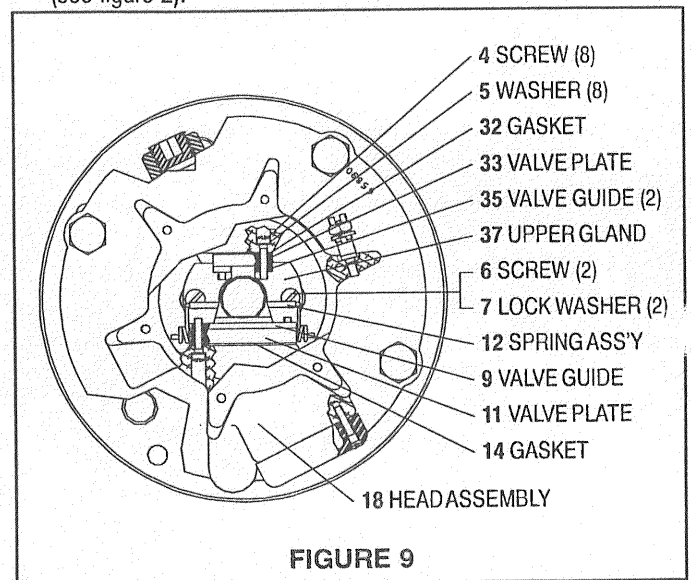

FIGURE 9
35. Push the assembled (42) piston adapter and (31) valve piston down thru the 90350 installation tool until they bottom.
37. Install the (37) upper gland over the (31) valve piston and push down, being careful to retain the (38) seal in the "O" ring groove.
38. Align the two bolt holes and secure the (37) upper gland to the (18) head assembly with the two (6) machine screws and two (7) lock washers (see figure 9).
40. Thoroughly grease and insert the (34) pilot insert, two (35) valve guides, (33) valve plate and (32) gasket into the (18) head assembly (see figure 9).
43. Hook the round coils in the (12) insert spring assembly over the pins in the (11) valve plate and pin assembly (see figure 9).
44. Hook the bottoms of the (12) insert spring assembly into the holes on the side of the (11) valve plate and pin assembly.
45. Insert the (9) valve guide against the face of the (11) valve plate and pin assembly. The legs of the (9) valve guide should be down, with the leg having the threaded hole the farthest from the bottom toward the air inlet in the (18) head assembly.